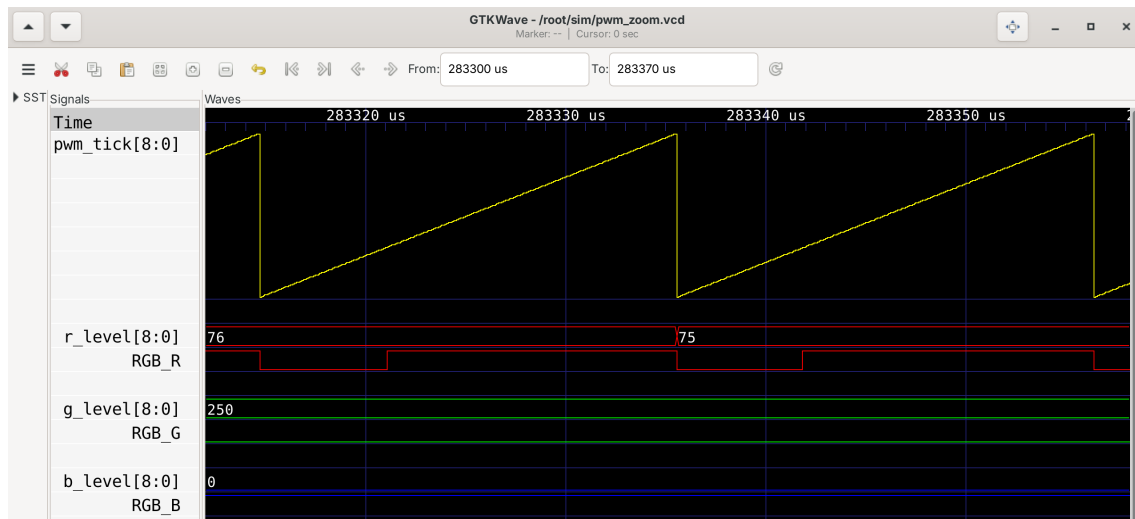

Figure 6. PWM outputs at real speed from `pwm_zoom_tb.sv`, about two PWM periods. The RGB outputs are active low.
In Figure 6, the yellow sawtooth is `pwm_tick`. It climbs from 0 to 249 and drops back to 0 every 20.8 μ s, and each drop starts a new PWM period. Below it, each color has two rows: its level and its output pin.
- `pwm_zoom_tb.sv`: test bench for Figure 6 (real timing, short window)